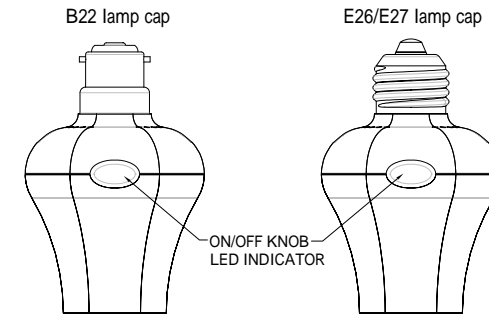

Fig. 2
- (1) In the front cover, there is an On/Off knob with LED indicator (Fig. 2).